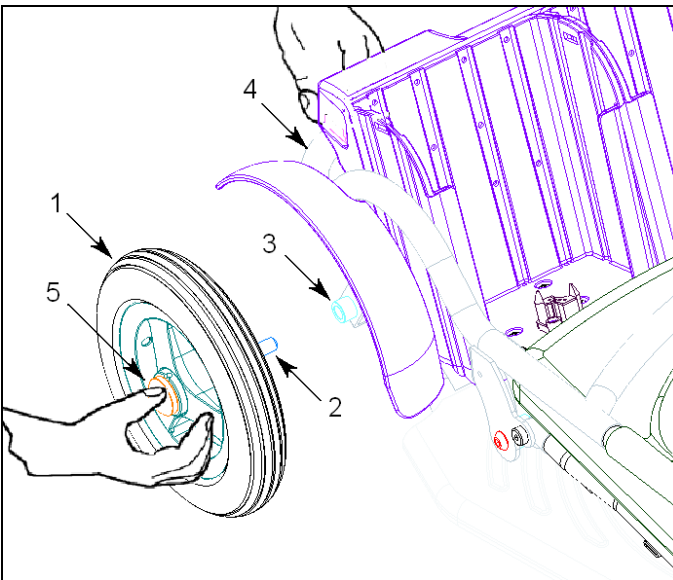

Figure 2
(See **figure 2**) The rear wheel (1) is assembled by means of a so called quick release axle (2) into the wheel mount (3) of the frame (4).
Take the rear wheel in your hand as shown in **figure 2**. Grip the wheel (1) with your fingers through the spokes and depress the button under the rubber cover (5) at the centre of the wheel with your thumb. Lift the frame (4) using your other hand and fully insert the quick release axle (2) into the Wheel mount (3) of the frame, release the button. Check if the quick release axle is locked by pulling on the wheel.